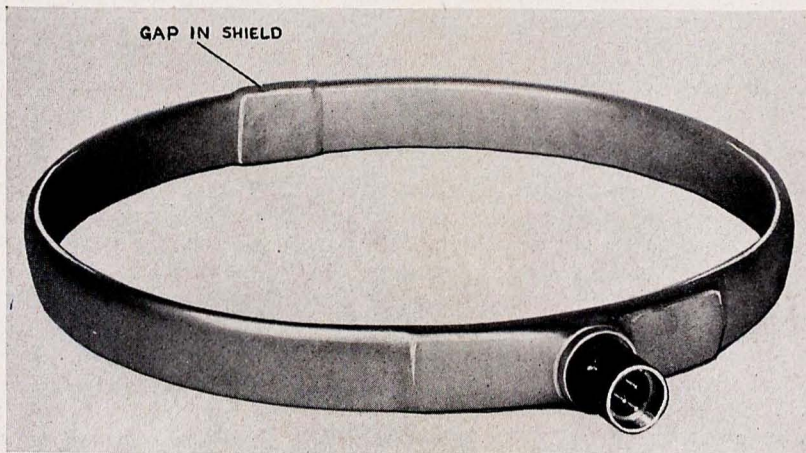

Figure 12—Loop LP-13-A
- 2-3 **LOOP LP-13-A.**—The loop consists of an 8 turn coil with center tap, enclosed in a toroidal electrostatic shield of streamline cross-section. The shield has a gap at the top of the loop and this gap is insulated, weatherproofed and waterproofed with vulcanized rubber tubing. (See Figure 12.) A temperature operated compensating capacitor, C38, is contained within the lower part of the mounting section to compensate against any frequency change due to varying temperature. Electrical connection is provided through three contact type terminals which fit both Loop Mountings GS-7-A and GS-8-A. A keyed locating device is attached to the loop to direct the proper positioning of the loop on the mountings. Loop LP-13-A will fit either Loop Mounting GS-7-A or GS-8-A.